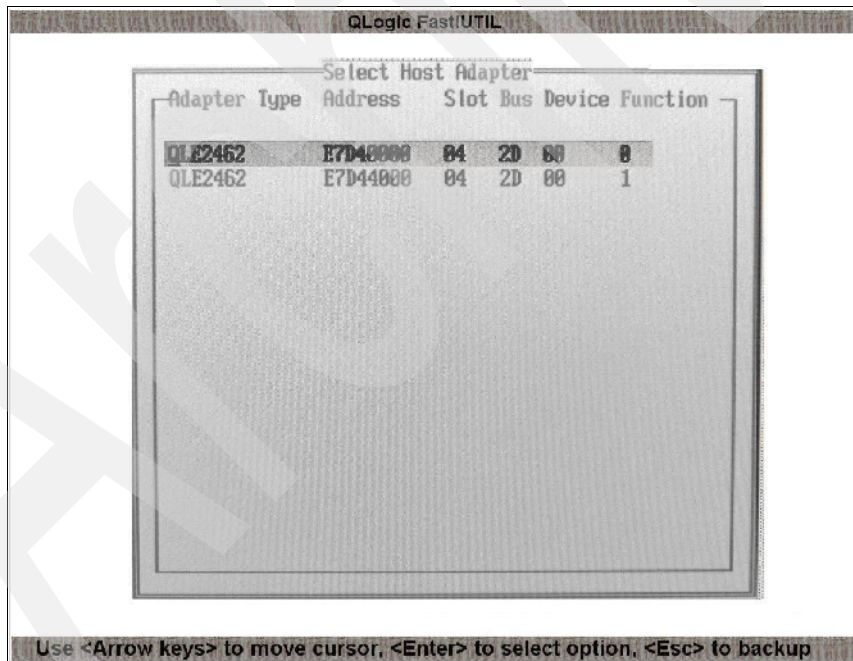

Figure 26-27 Select the second FC HBA port
3. Power on the server and enter Fast!UTIL by pressing Ctrl+Q when prompted. Select the second HBA port (Figure 26-27) and press Enter.